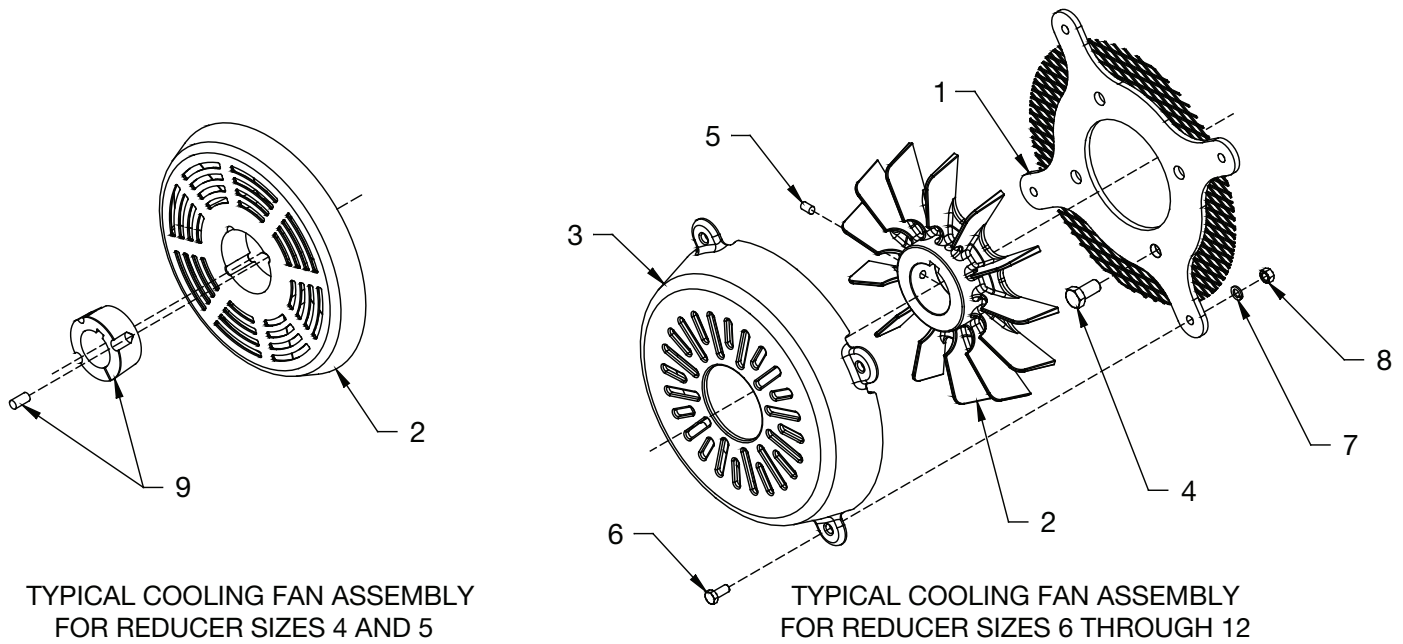

Figure 2 - Parts Identification
- Referring to Figure 2, install tapered bushing (9) into bore of fan blade assembly (2) and loosely install the two set screws provided with fan. Snug set screws but do not tighten at this time.
- Referring to Figure 2, install fan guard back plate assembly (1) using the four bolts (4) provided. Tighten to recommended torque in Table 1.